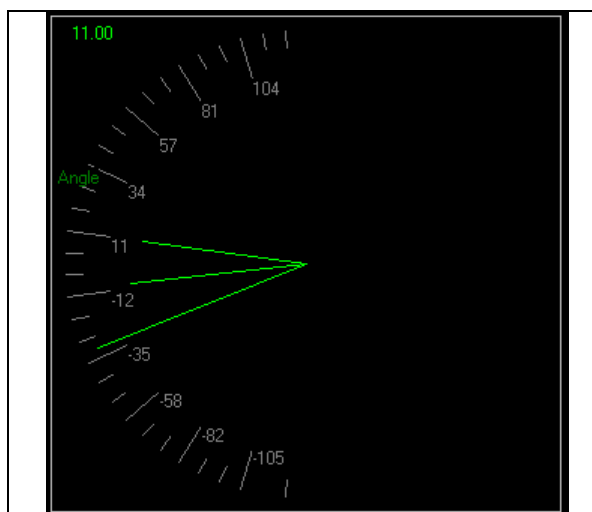

Figure 3-35 Angle Gauge Widget (Gauges/Charts)
The **Angle Gauge** widget, shown right in Figure 3-35, can display up to eight (8) individual parameters from up to twelve (12) streams, including formulas and functions. The user has individual control on arrow length and width, as well as the number of scales and min/max values.